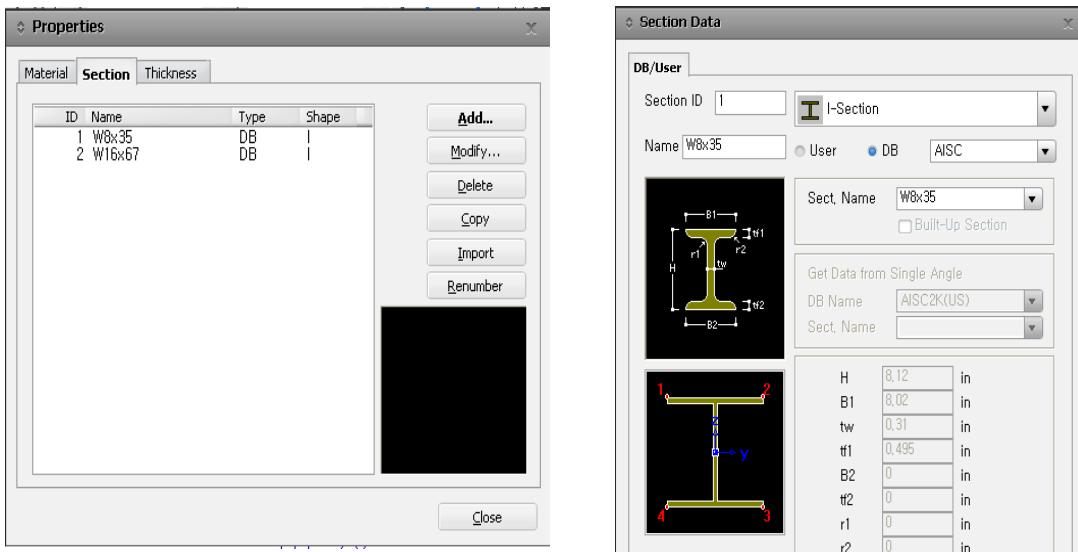

Figure 1.6 Dialog box for Section Properties
2. Click  shown in Fig.1.6.
7. Select the **Section** tab on the top of the **Properties** dialog box (Fig.1.6—①). ☞
18. Click  in the **Properties** dialog box (Fig.1.6).